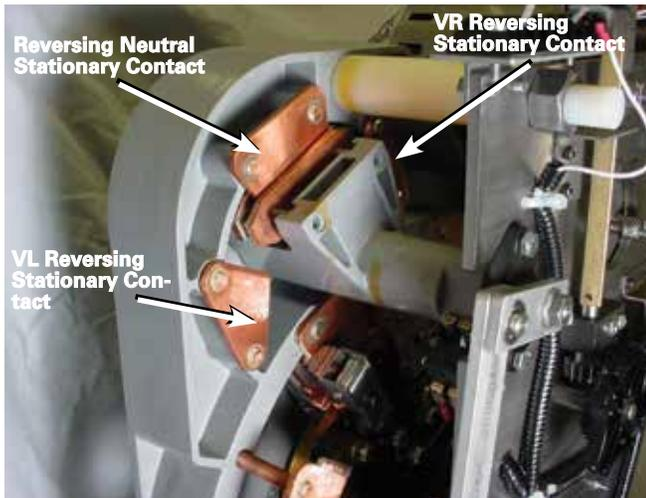

Figure 2. VL reversing stationary contact location.
1. Each QD5 tap-changer has one VL reversing stationary contact. See Figure 2.